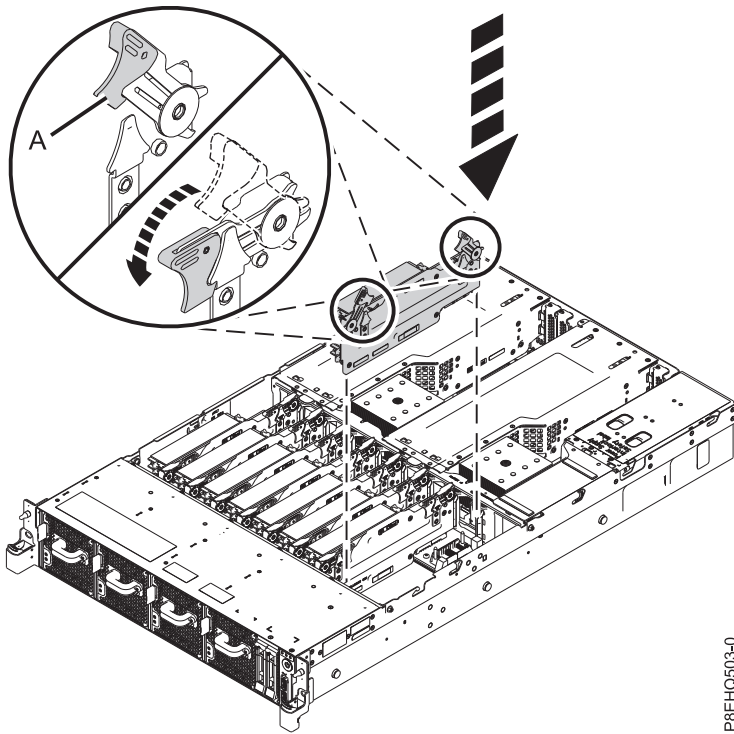

Figure 36. Replacing a memory riser in the system
- a. Ensure the release latches are open to about a 60 degree angle, as shown in Figure 36 on page 36.
- d. Press the release latches into the closed position. See **(A)** in Figure 36 on page 36.